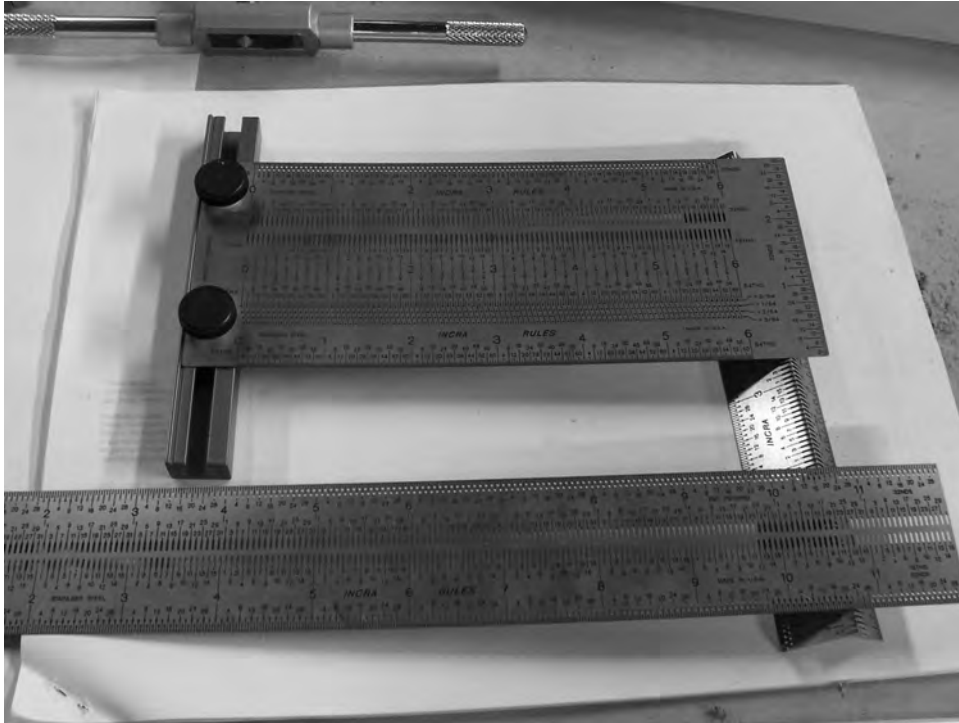

Figure 2-3. *These rulers are from Incra and are extremely accurate.*
- Detail metal ruler: This is a special type of ruler (see Figure 2-3) with marks that allow you to make extremely straight lines for cutting and points for drilling. Measuring and marking increments of 1/8", 1/16", 1/32", and 1/64" are possible with these rulers.